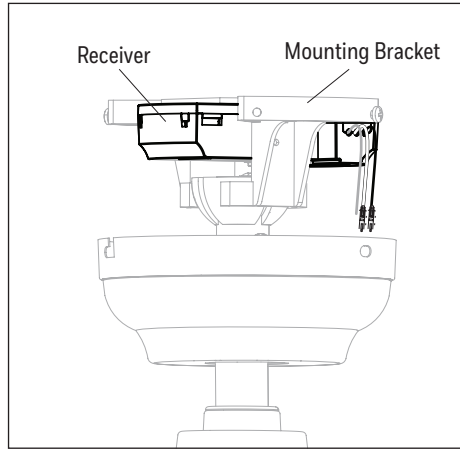

Figure 3.2
2. Insert the receiver in the mounting bracket with antenna end first and flat side facing up. **Note:** The receiver rests directly on the downrod (Figure 3.2).